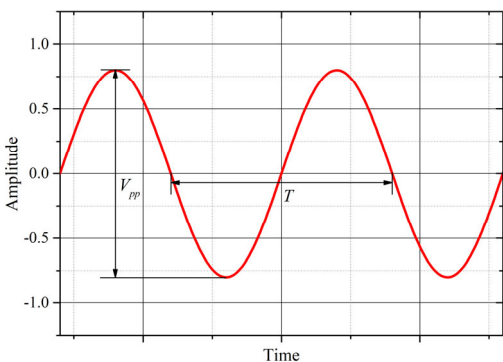

Figure 1. Signal period and peak-to-peak amplitude measurement.
- (1) Turn on the oscilloscope and switch the VERT MODE to dual beam. Set the coupling source of the oscilloscope as Channel 1 (CH1) and choose Auto mode.
- (2) Set the vertical AC-GND-DC input coupling switches of both channel 1 (CH1) and channel 2 (CH2) to GND. Center the traces of both channels on the screen, and then switch both AC-GND-DC switches back to AC.
- (3) Set the signal generator to produce a sine wave at a frequency of 500 Hz, with an amplitude of 1 volt. Connect it to CH1 input of the oscilloscope
- (4) Use the oscilloscope to measure the period (see Figure 1). To obtain the best accuracy, ensure that the waveform is centered on the screen vertically to measure the correct zero crossing on the time axis.
- (5) Find the period T of the waveform. The frequency of the signal can be calculated using $f = 1/T$.
- (6) You can turn the TIME/DIV button to set the oscilloscope timebase (time/div). It will control the number of cycles on the screen.
- (1) Keep the same setting of the signal generator in Part (i).
- (2) Set the CH1 sensitivity of the oscilloscope to 0.5 volt/div to display the signal properly. Connect the signal generator to CH1.
- (3) Set the TIME/DIV button to obtain several cycles on the display.
- (4) Measure the peak-to-peak value (see Figure 1) of the waveform.